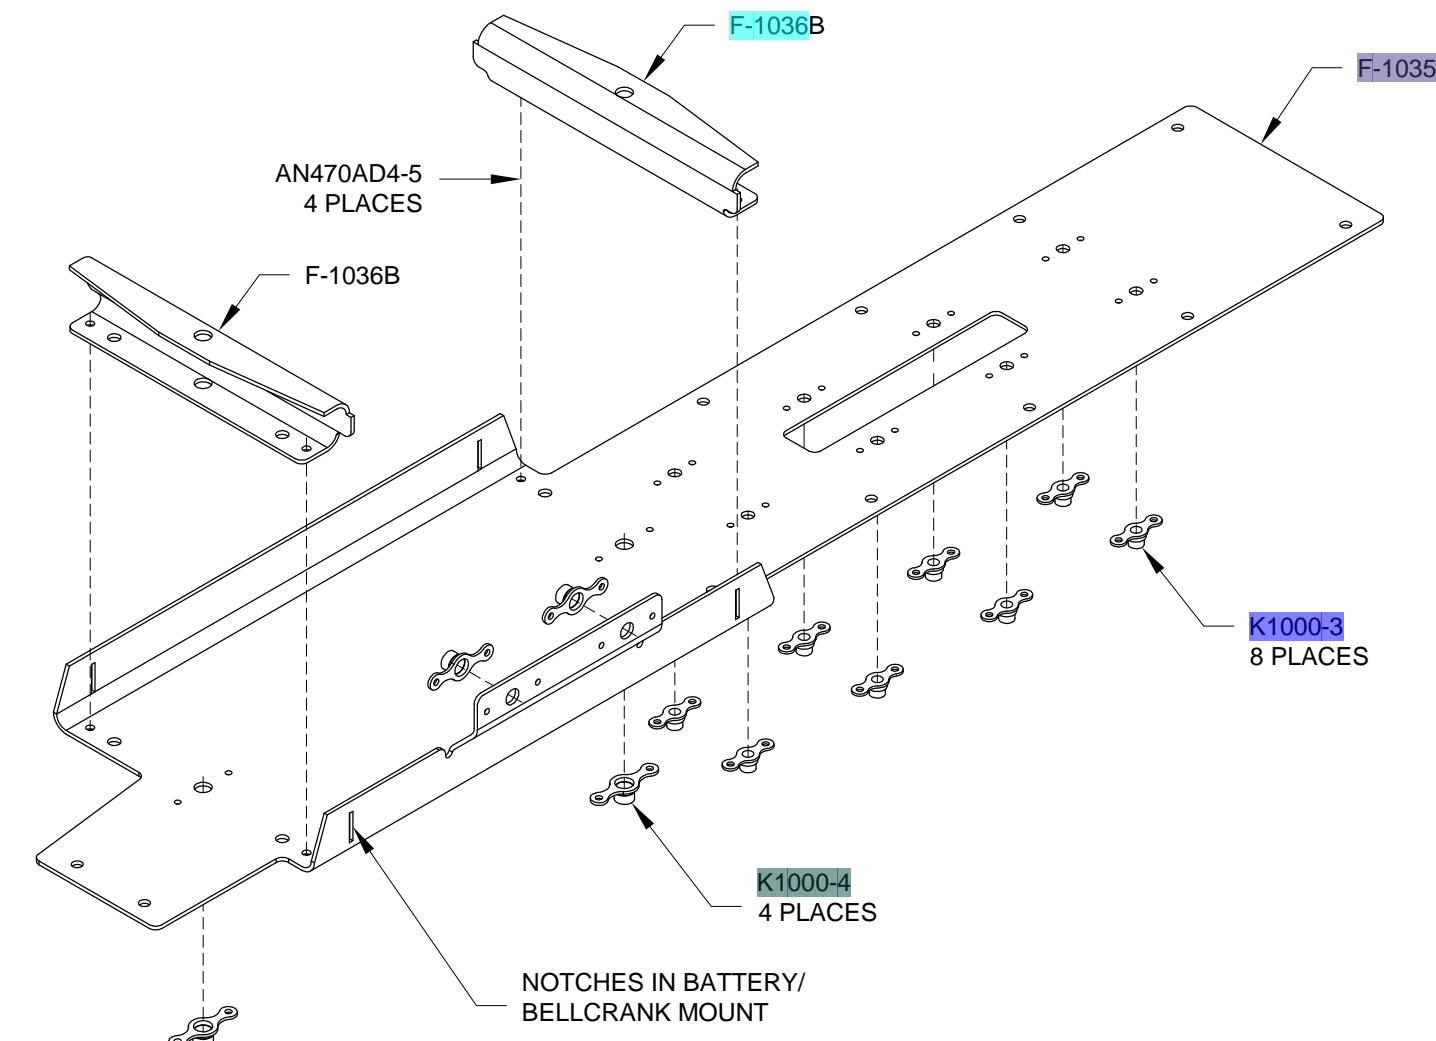

FIGURE 3: RIVETING THE BATTERY/BELLCRANK MOUNT
Step 5: Rivet all the nutplates shown in Figure 3 using AN426AD3-4 flush rivets.
Step 6: Snap the tabs of the F-1036B Battery Channels into the notches of the F-1035 Battery/ Bellcrank Mount, then rivet the channels in place using the rivets called out in Figure 3.